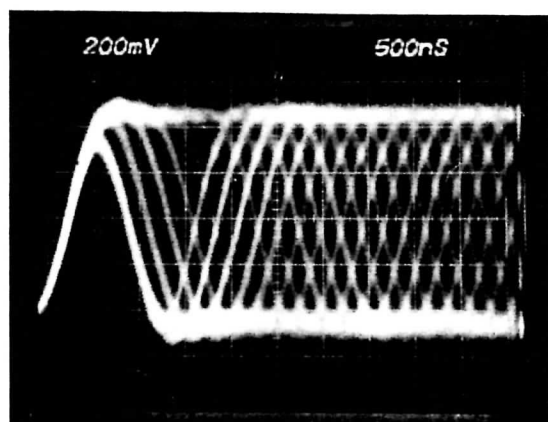

Fig. 7-2
- 4) Confirm that the HF signal (Eye-Pattern) shown in Fig. 7-2.